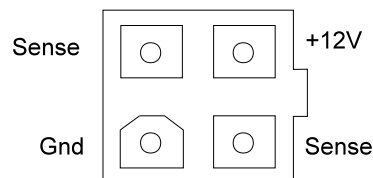

Figure 9. Power Supply Connector J2
8. On the power supply connector J2 (see Figure 9), check that the +12V signal falls between a minimum of +11.5 volts and a maximum of +12.6 volts.